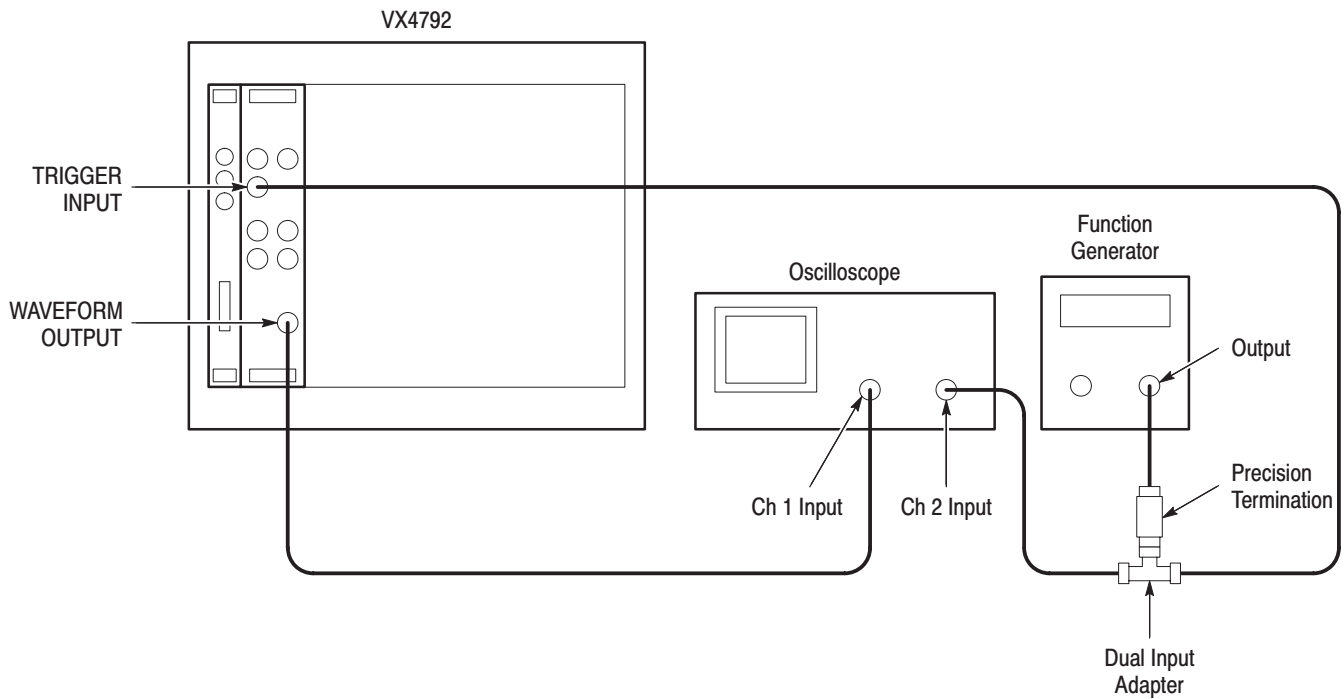

Figure F-6: Gated Mode Initial Test Setup
1. Install test setup and set test equipment controls (see Figure F-6):